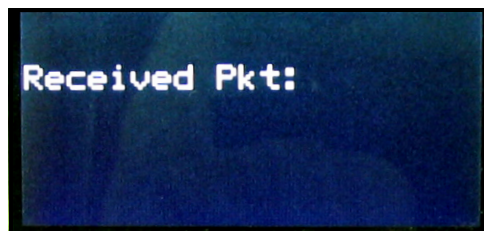

Figure 223: Sentinel LCT Screen
3. From the **Sentinel LCT FACTORY** menu, scroll to the Upgrade option and press **[ENT]** twice. The **Sentinel LCT** screen should appear as in Figure 223 after approximately one minute, or
Power on the **Sentinel LCT**, and enter ESC-R from the PC keyboard. The **Sentinel LCT** screen should appear as in Figure 223.